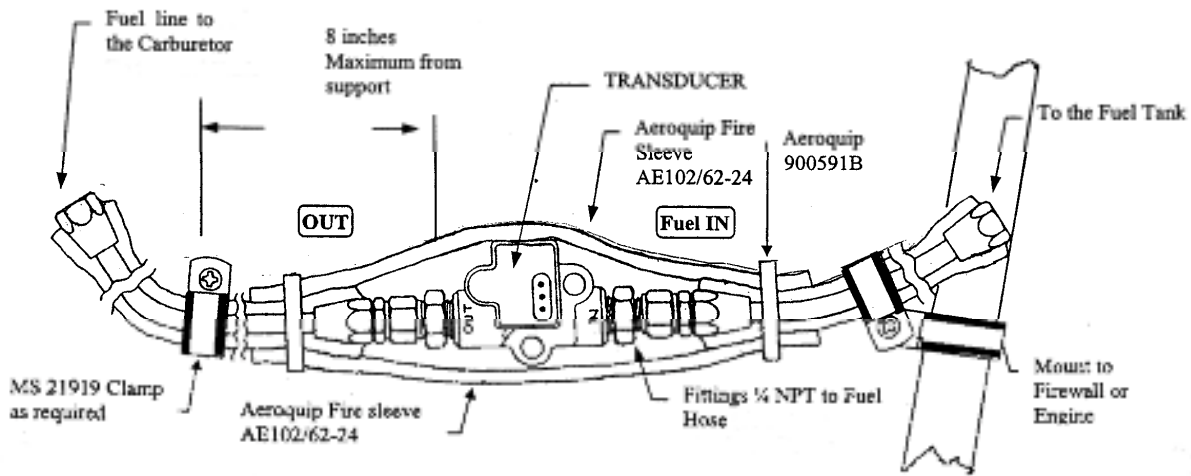

Figure 1 Suspended mounting of transducer
- 3.6 **Suspended Mounting.** See figure 1 below